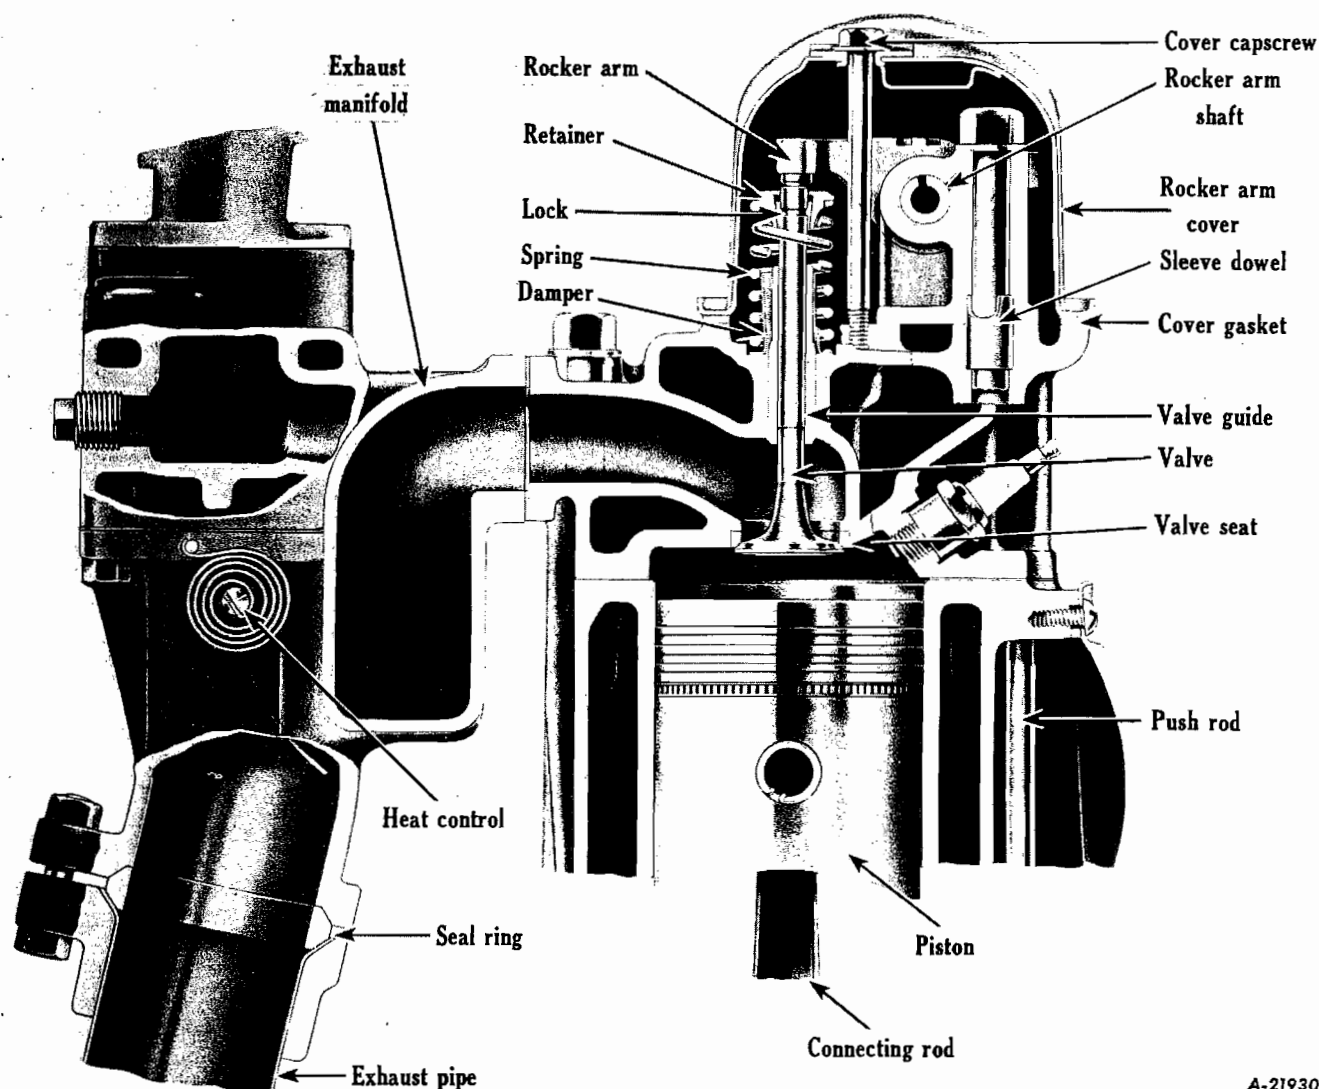

Fig. 3 - Sectional view through engine showing details of valve mechanism.
6. Exhaust valve seats are of alloy, and are pressed into place (Fig. 3). These valve seats lengthen the period between valve reconditioning operations. Valves and valve seats are cooled by continuous circulation of water through the cylinder head.